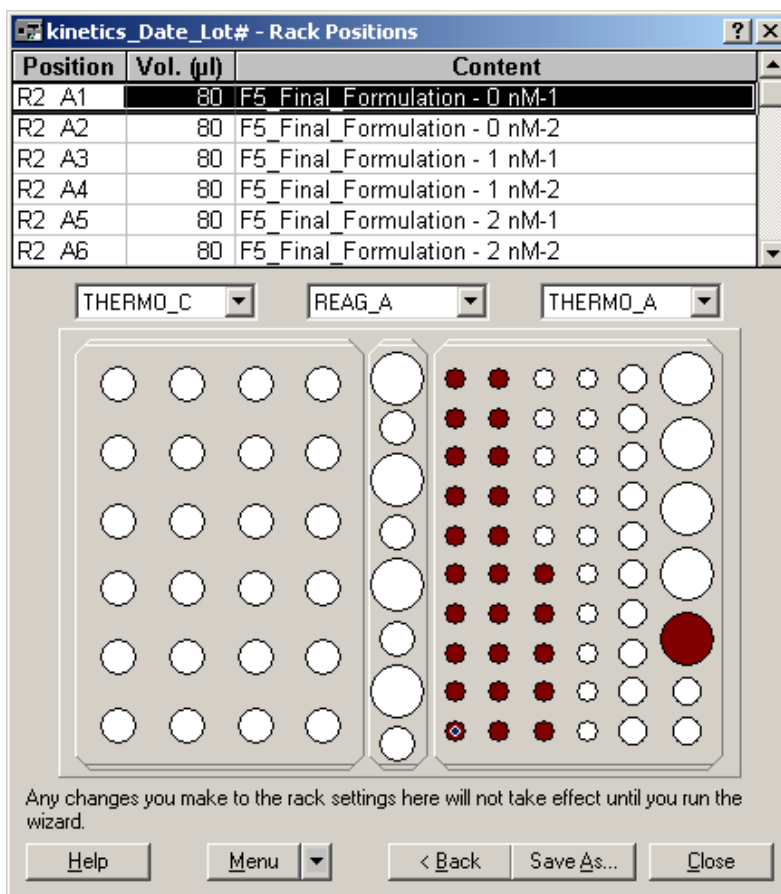

Figure 5.4 (Note: The sample name and concentration should be consistent with the experiment that will be performed)
5.8 Rack positions window (Figure 5.4) will open.
- 5.10 Place 80  $\mu$ L of each sample (duplicates of each concentration is kept in separate vials) in 7 mm polypropylene vials displayed in figure 5.4.
- 5.11 Also place appropriate amount of regeneration buffer (e.g., 2M MgCl2) in a 16 mm glass vial in the rack position displayed in fig. 5.4.